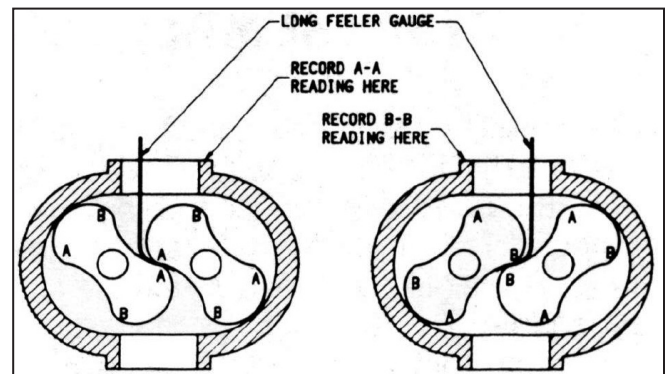

Figure 8 - Checking Rotor Interlobe Clearance
18. Using feeler gauges take interlobe readings and record on each side of housing as indicated in Figure 8. By removing or adding shim behind the helical gear, it rotates as it is moved in or out and the driven rotor turns with it, thus changing the clearance between rotor lobes. Changing the shim thickness .006" (.15 mm) will change the rotor lobe clearance .003" (.08 mm) or one-half the amount.
EXAMPLE: Referring to Figure 8, check the clearance a AA (right hand reading) and BB (left hand reading). If AA reading is .009" (.23 mm) and BB reading .003" (.08 mm) by removing .006" (.15 mm) shims, the readings will change one-half the amount removed or .003" (.08 mm) AA should then read .006" (.15 mm) and BB should read .006" (.15 mm). The final reading should be within .002" (.05 mm) of each other. To determine the amount of shim to add or remove, subtract the small figure from the larger. If the right side reading is higher than the left side, remove shim. If the right side reading is lower, add shim.